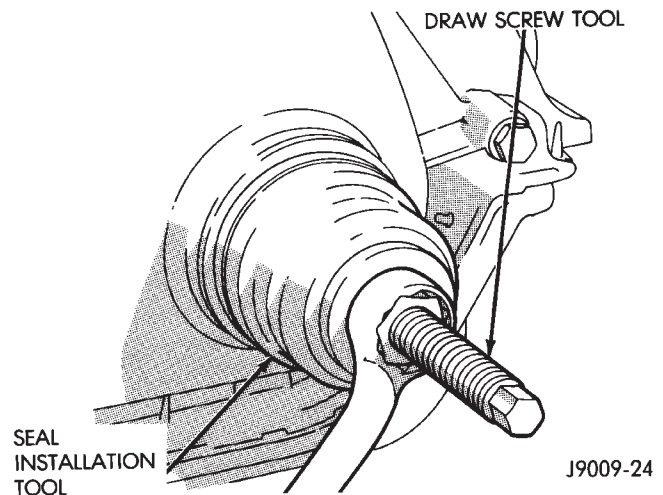

Fig. 3 Timing Case Cover Oil Seal Installation
(6) Position the replacement oil seal on Timing Case Cover Alignment and Seal Installation Tool 6139 with seal open end facing inward. Apply a light film of Perfect Seal, or equivalent, on the outside diameter of the seal. Lightly coat the crankshaft with engine oil.
(7) Position the tool and seal over the end of the crankshaft and insert a draw screw tool into Seal Installation Tool 6139 (Fig. 3). Tighten the nut against the tool until it contacts the cover.